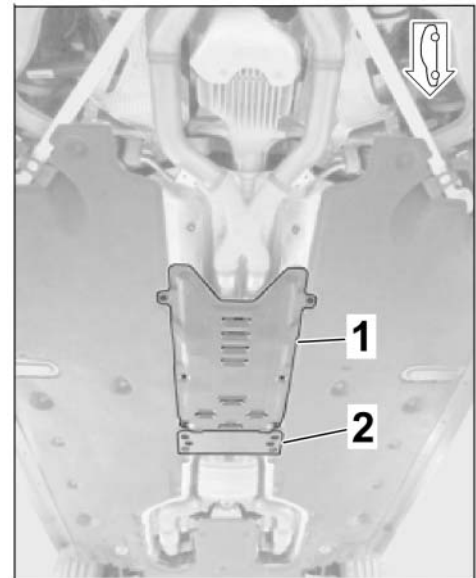

Figure 21
- 3.1.1 Remove tunnel cover on –center–underbody (⇒ *Figure 21 -1-*) and detach center underbody cover at the left/right side. ⇒ *Workshop Manual '519319 Removing and installing cover for central underbody cover'*
- 3.1.2 Remove tunnel strut (10 x hexagon-head bolts, M10 x 45 ⇒ *Figure 21 -2-*). ⇒ *Workshop Manual '260119 Removing and installing exhaust system'*